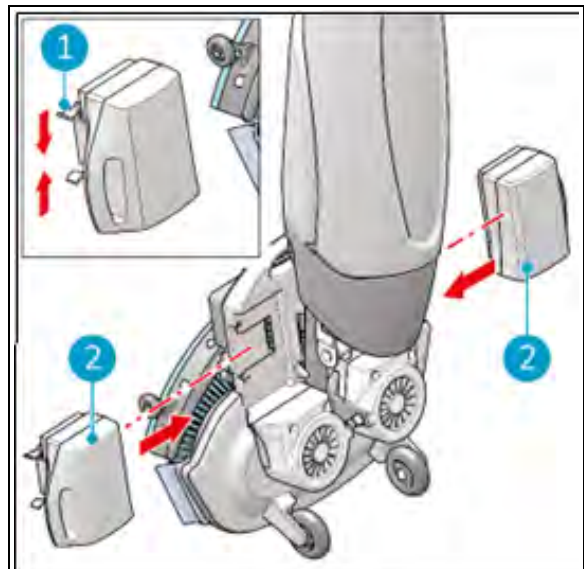

Figure 29
3. While pressing both plastic pins inwards (Figure 29, pos. 1), pull each battery pack away (Figure 29, pos. 2).